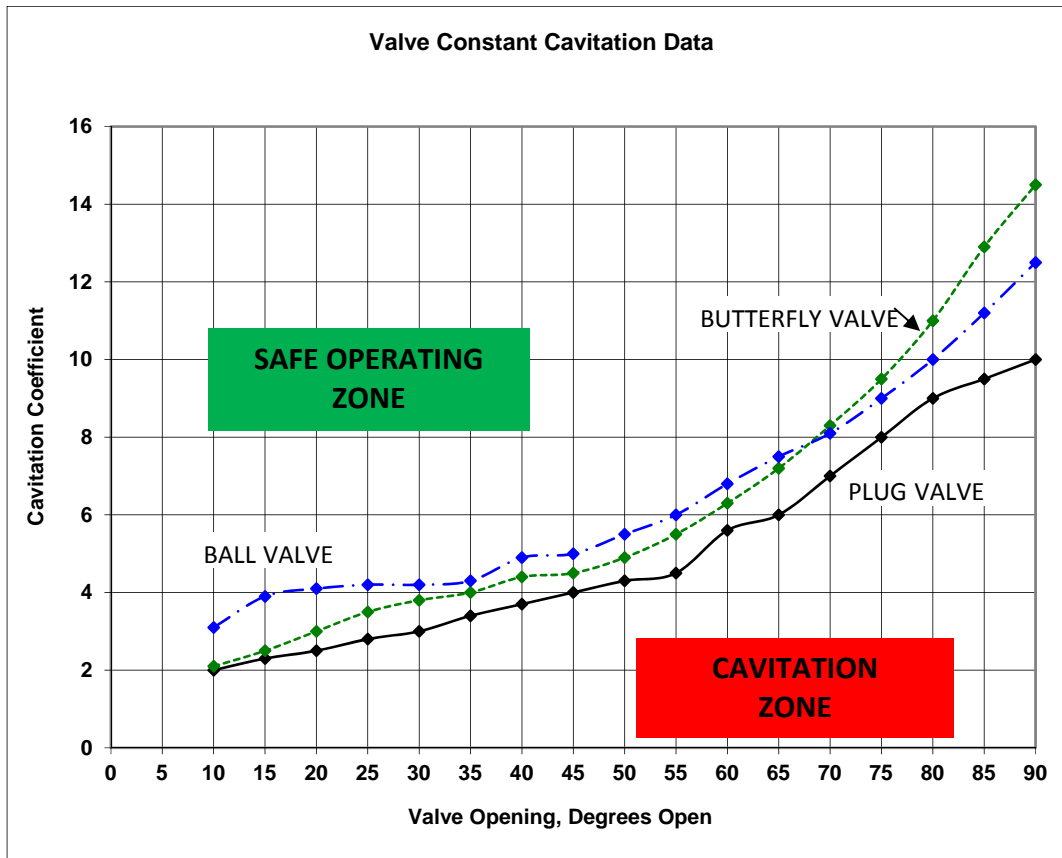

FIGURE 2. Cavitation Characteristics of Valves
The valve position in degrees obtained from Figure 3 and the cavitation index calculated above are then plotted on the graph in Figure 2. If the resultant point falls below the applicable valve curve, then serious cavitation may occur.
4. Plot the cavitation index of 4.2 on the cavitation graph (Figure 2) with 22 degrees on the x axis. The point is above the cavitation line and is in the "Safe Operating Zone", so cavitation will not be a problem.